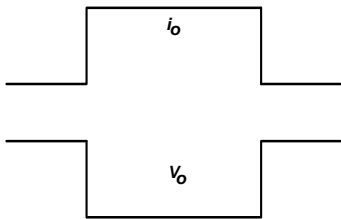
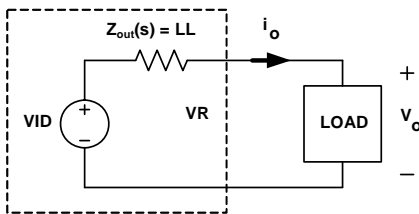

FIGURE 21. DESIRED LOAD TRANSIENT RESPONSE WAVEFORMS
FIGURE 27. VOLTAGE REGULATOR EQUIVALENT CIRCUIT
Assuming the compensator design is correct, Figure 21 shows the expected load transient response waveforms if C_n is correctly selected. When the load current i_{core} has a square change, the output voltage V_{core} also has a square response.
Figure 21 shows the desired load transient response waveforms. Figure 27 shows the equivalent circuit of a voltage regulator (VR) with the droop function. A VR is equivalent to a voltage source (= VID) and output impedance $Z_{out}(s)$. If $Z_{out}(s)$ is equal to the load-line slope LL, i.e., a constant output impedance, then in the entire frequency range, V_o will have a square response when I_o has a square change.